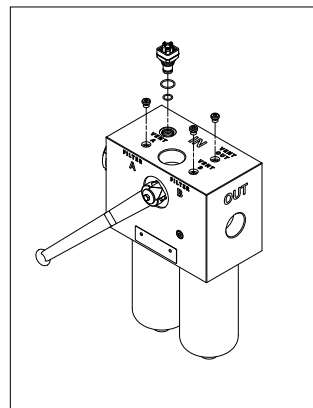

fig. 32
- (Fig. 32) Replace the O-rings of the indicator body and the breather plug